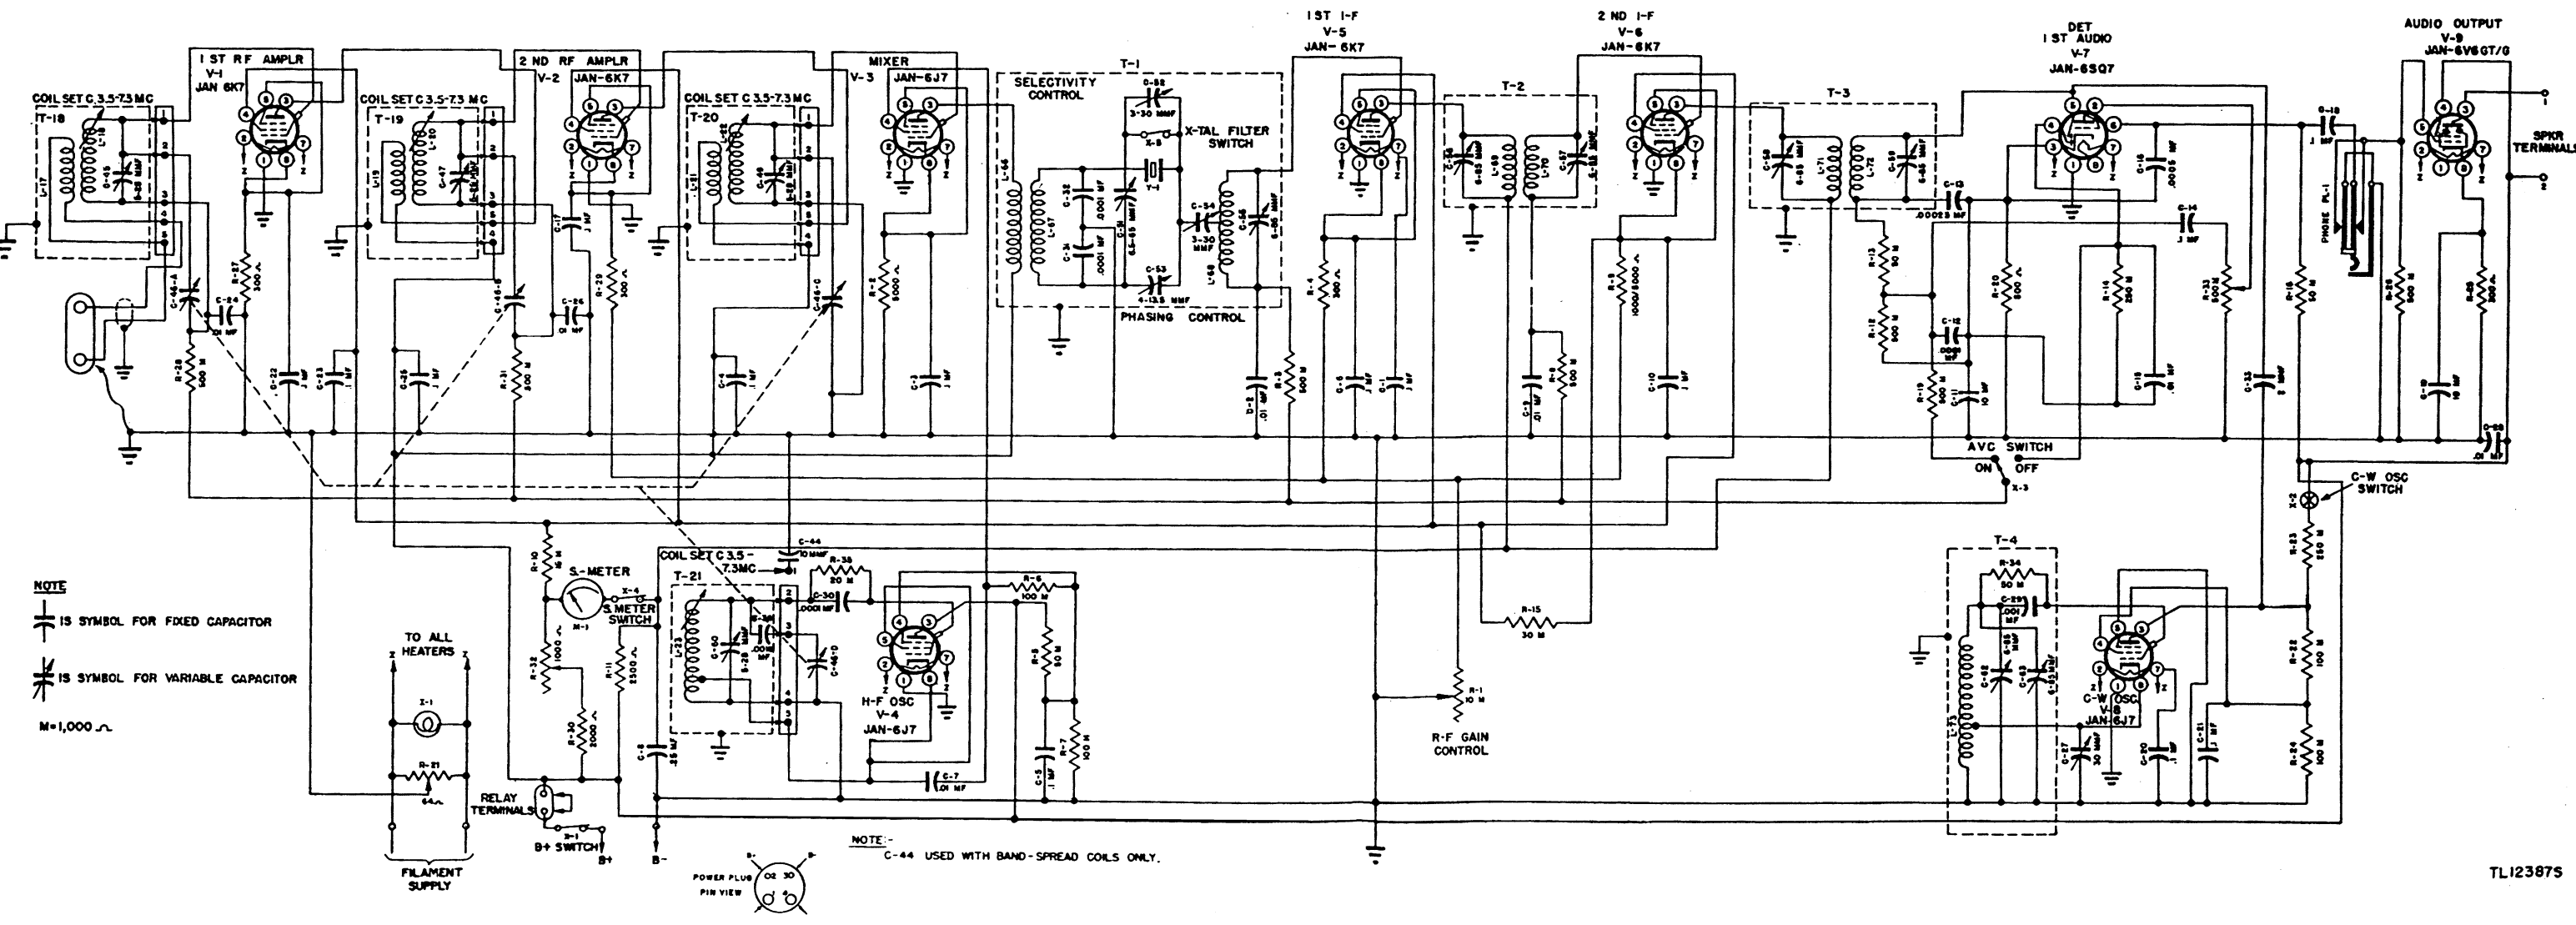

Figure 36. Radio Receiver R-140/FSM-1 (with metal tubes) and National HRO-5 series
(2) Complete schematic diagrams. (See figs. 36, 37, 42, and 43.)
(3) Simplified and partial schematic diagrams. These diagrams are particularly useful in trouble shooting, since in them the repairman can follow the electrical functioning of the circuits more easily than on the regular schematics.
(4) Voltage and resistance data for all tube sockets.
(5) Pin connections on sockets, plugs, and receptacles are numbered or lettered in the various diagrams.